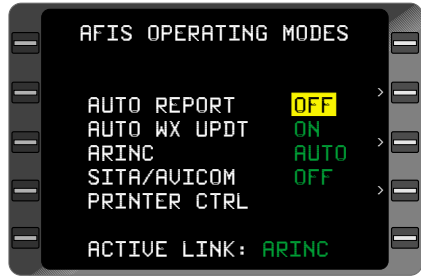

Figure 7-111
4. Line Select Key - DEPRESS to position cursor over **OFF** option of **AUTO REPORT** field. (Figure 7-111)